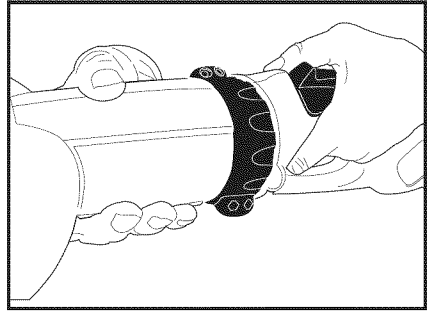

Figure 2
2. Insert the male end of the power handle interface into the female socket in the end of the tool attachment making sure that it is firmly seated. (see figure 2) The interface is keyed so that it will only go together one way. The handle and tool should go together easily. If you experience resistance in putting them together, check that the keys on the handle are properly aligned with the slots in the tool.